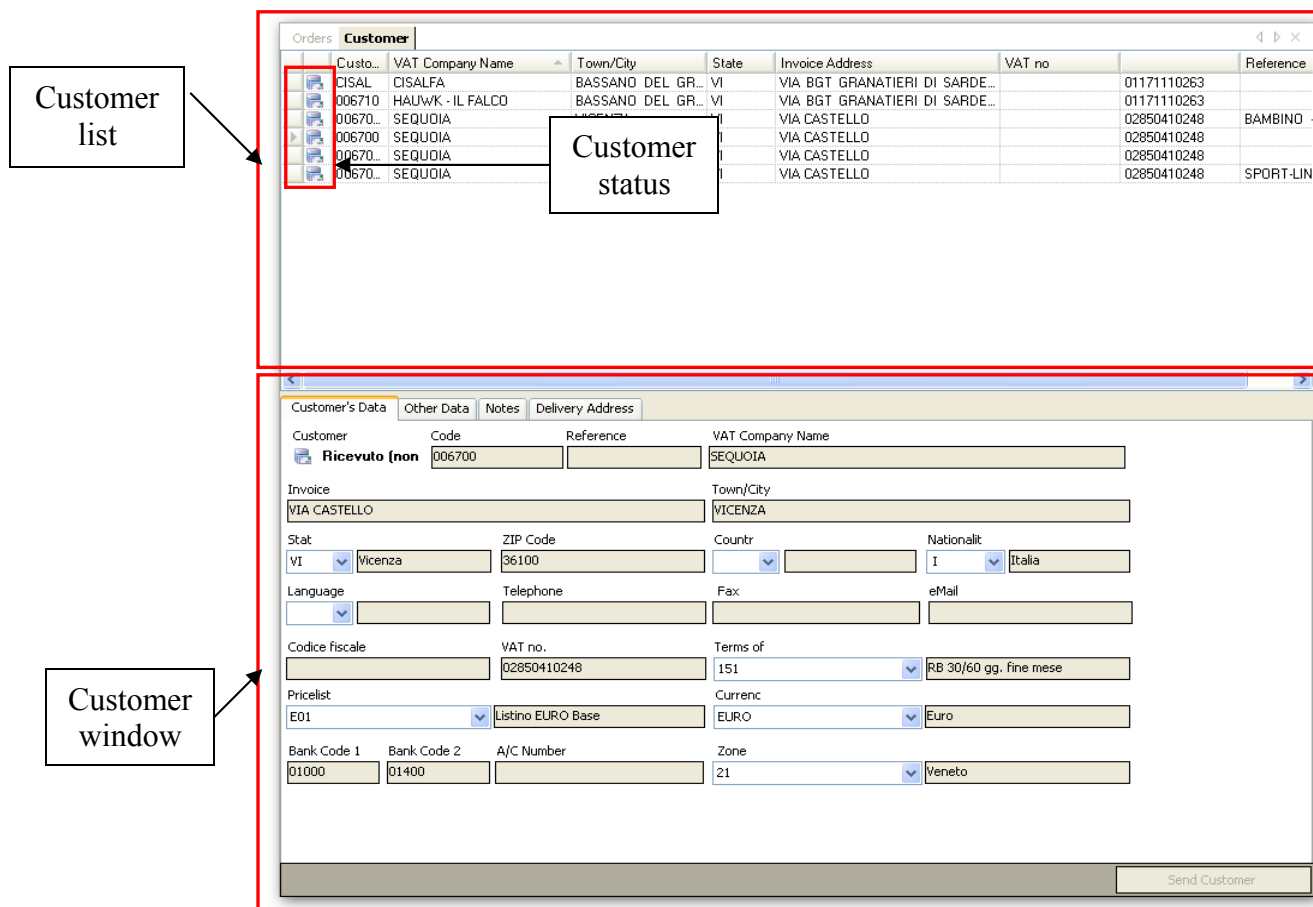

Fig. 21 - Customer list window and Customer window
In the right section of the screen, the "Customer list" window and the "Customer window" will be displayed (Fig. 21).
The symbol in the red area is the "Customer status" (Fig. 21). It can be:
**Transmitted:** the customer has been transmitted to the company. The customer receipt by the company is confirmed when the status is displayed as "Received", with the attribution of a code (visible in the third column of the "Customer list" window, Fig. 21).
The confirmed customer cannot be changed anymore. It will be automatically sent to the company by clicking on "Send and receive". The customer receipt by the company is confirmed when the status turns to "Received", with the attribution of a code (visible in the third column of the "Customer list" window, Fig. 21).